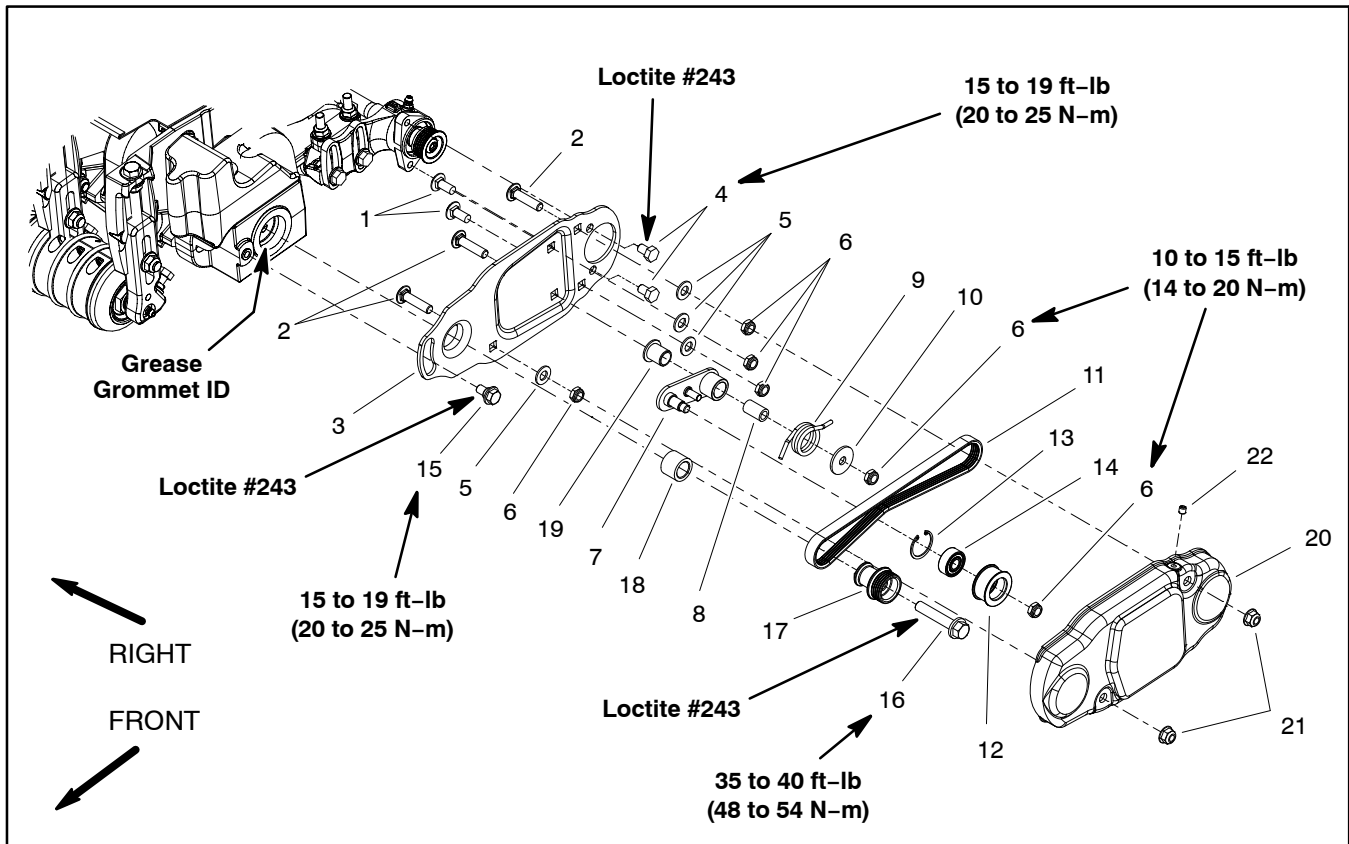
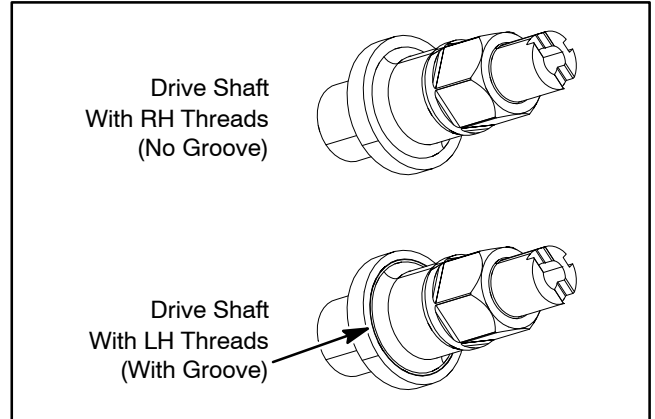

Figure 67
Figure 69
## Drive System Disassembly (Fig. 67)
2. Remove cover (item 20) to access rear roller brush drive components.
3. Remove roller brush drive components as necessary using Figure 67 as a guide.
**IMPORTANT:** If rear roller brush drive is on left side of cutting unit, drive shaft has left hand threads and can be identified by a groove on the flange. If the rear roller brush drive is on right side of cutting unit, drive shaft has right hand threads and does not have a groove on the flange (Fig. 69).
## Drive System Assembly (Fig. 67)
C. Position housing to cutting unit side plate and secure to cutting unit with two (2) socket head screws.
2. Assemble roller brush components using Figure 67 as a guide.
A. During assembly, apply Loctite #243 (or equivalent) to threads of fasteners and torque fasteners as shown in Figure 67.
C. Brush plate should be installed so that idler pulley assembly is toward the bottom of the plate. Also, the shoulder bolt (item 15) should not clamp the brush plate to the drive housing during assembly.
D. When installing drive pulley (item 17), make sure that tabs on pulley engage slot in drive shaft.
E. Idler arm (item 7) should be free to rotate after assembly to brush plate. Make sure that idler spring is installed so that it can rotate the idler arm and pulley and apply tension to the drive belt.